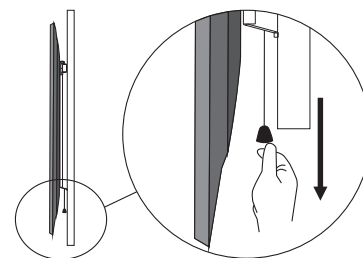

Figure 6 – Engage LockEase on each arm.
2. Pull down on LockEase tabs, gently press on TV then release LockEase tabs to lock arms to wall plate. See Figure 6.